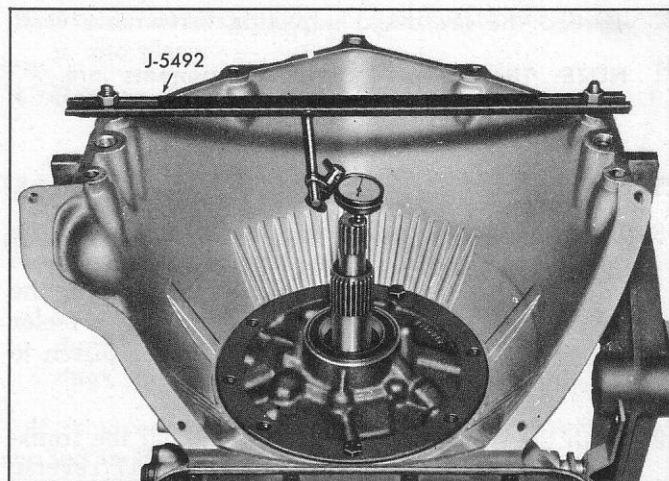

Fig. 40—Checking End Play for Proper Thrust Washer Selection
- a. Mount a dial indicator so that plunger of indicator is resting on end of the input shaft. J-5492 may be used to support the dial indicator as shown in Figure 40. Zero the indicator.